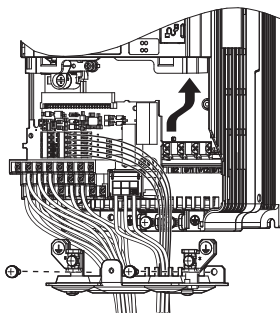

Figure 7.29 Drive Replacement: Installing the Control Terminal Board
1. Once the main circuit has been wired, connect the terminal block to the drive as shown in Figure 7.29. Use the installation screw to fasten the terminal block into place.